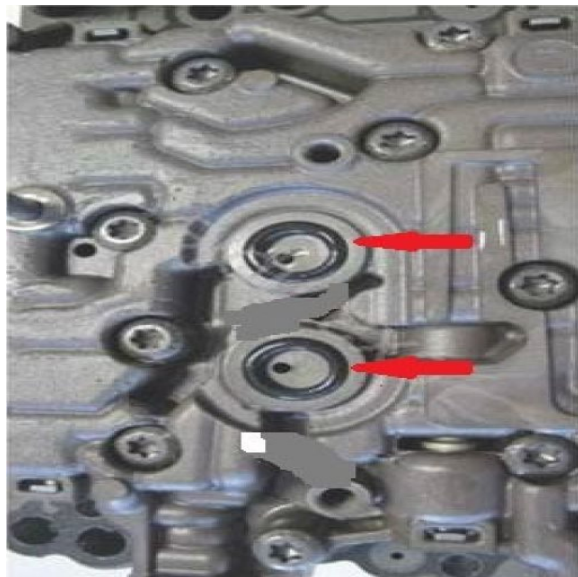

Figure 17. Seals for the pressure sensors.
21. Replace the seals for the pressure sensors (Figure 17). When doing so, ensure that the seals are seated correctly.